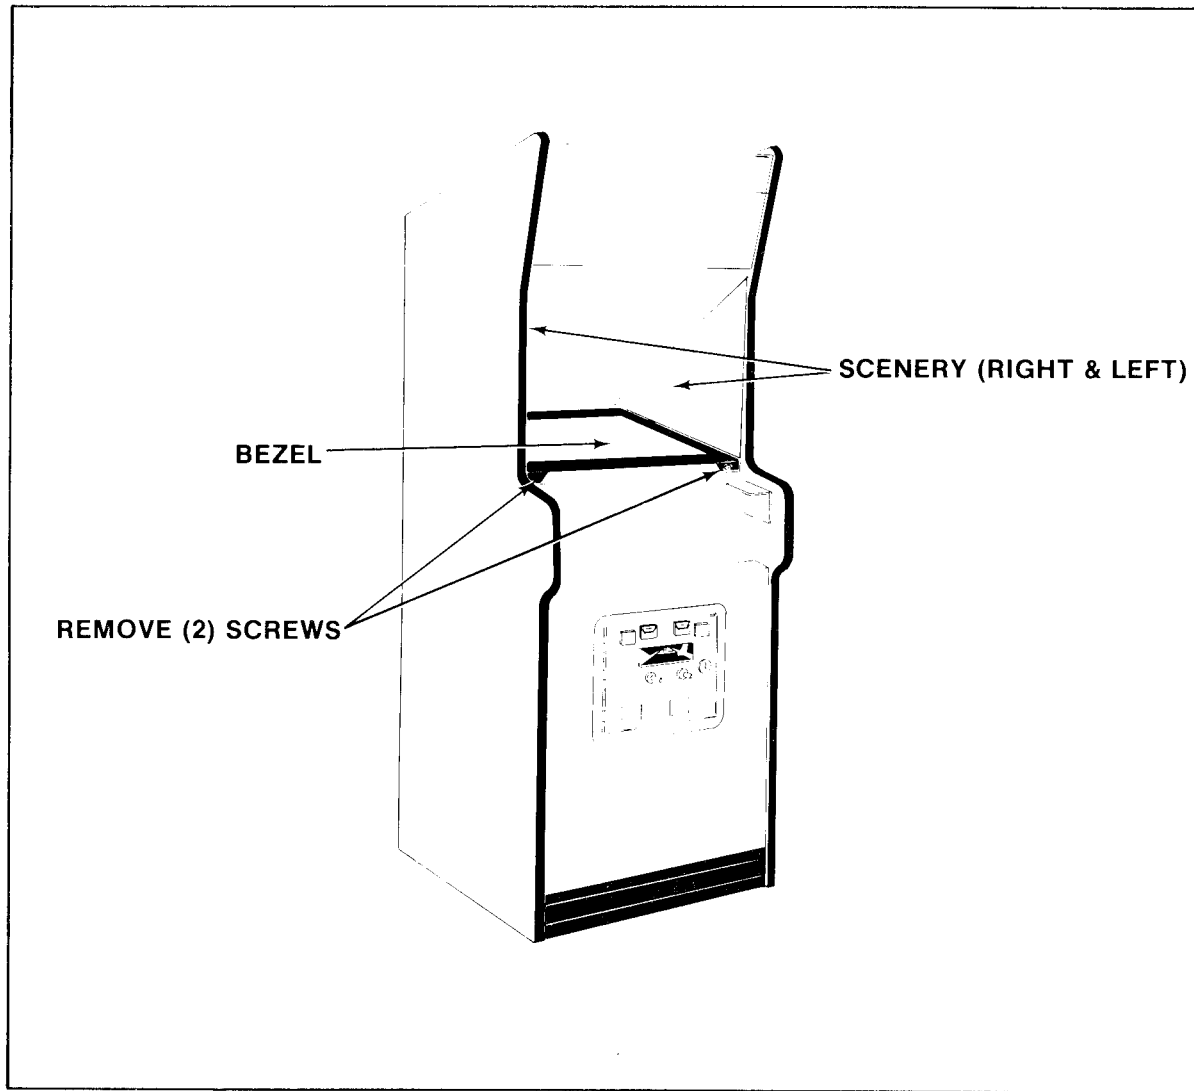

FIGURE 23
- c. Remove the triangular shaped pieces of scenery from the left and right hand sides of the cabinet. See Figure 23.
- e. The T.V. bezel assembly is now free and can be slid out of the cabinet. See Figure 23.